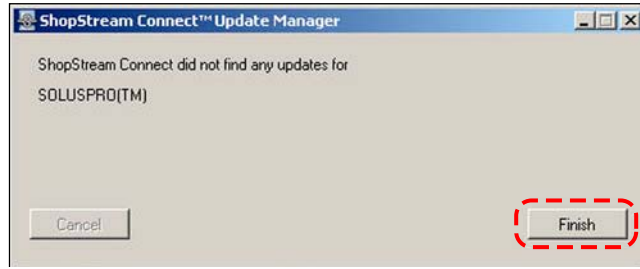

Figure C-12 Sample no updates available screen
- a. If no upgrades are available, a screen similar to Figure C-12 displays. Select **Finish** to close the Update Manager, then skip ahead to Step 7.